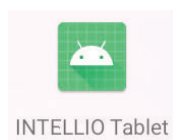

Figure 3. INTELLIO Tablet icon
1. Tab on the INTELLIO® Tablet icon, (Figure 3) to open the software.
1. Tap the INTELLIO Tablet icon (Figure 3) to open the software.